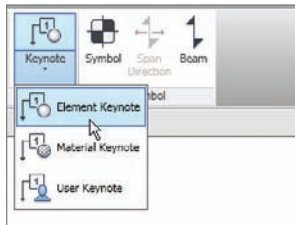

FIGURE 11.92 Select Keynote > Element Keynote.
3. On the Tag panel of the Annotate tab, select Keynote > Element Keynote, as shown in Figure 11.92.